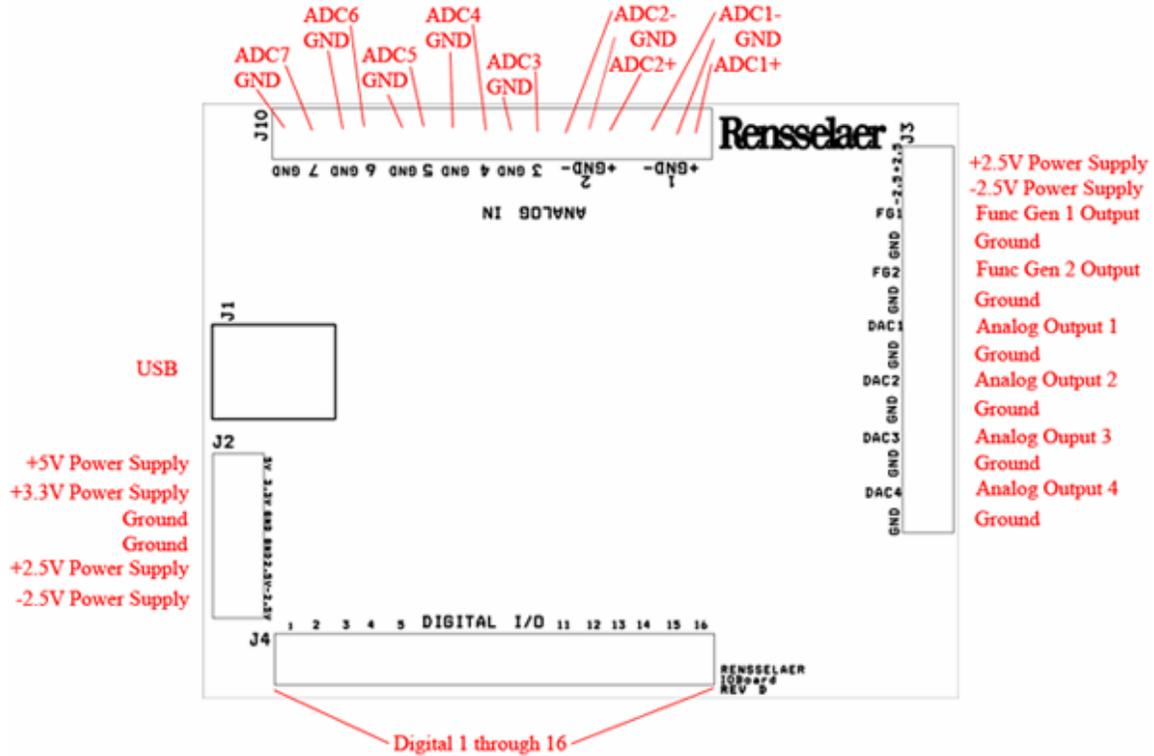

Figure A-1.
*Equipment:* What formerly would require the use of an entire workbench of equipment can now be accomplished using the Rensselaer IOBoard (see Figure A-1 below) and a laptop computer. This board, coupled with the Mobile Studio Desktop software, can simulate each of the following pieces of equipment: a two channel oscilloscope (scope), a digital voltmeter (DVM), two DC power supplies, a two channel function generator, and a 16 channel digital IO board. A full DMM is also used, as a measuring device that lets you take measurements of voltage, current, or resistance. The simulated digital voltmeter—DVM, has 2 channels (here we use the Analog IN channels 1 and 2 of the board). The scope is a measuring device that lets you view a plot of a voltage signal. The DC power supplies generate constant DC voltage signals (like a battery). The function generator creates a voltage signal that varies with time. The PC is an integral part of the equipment setup. You use it to simulate many of the circuits you will build, as well as to operate the IOBoard.
In this experiment we will use the function generator, the oscilloscope, and a speaker. The function generator is used to create electrical signals with various shapes, including sine waves. The function generator can be programmed to generate waves with specified amplitude and frequency. The function generator is connected to both the speaker and the oscilloscope. The speaker converts an electrical signal to sound that we then can hear. The oscilloscope analyzes an electrical signal and displays a picture of the signal. The combination of the oscilloscope and the speaker allows us to see with our eyes what we are hearing with our ears. We can also determine a mathematical representation of the sound that can then be used for system analysis. The function generator is located opposite the USB input. See Figure A-1.
- Connect the red lead (HI) from the DMM to one end of the speaker and the black lead (LO) to the other. In JEC 4201, just use the meter leads. In JEC 4107 there are cables available and one can use the dual banana to BNC connector. The dual banana connector has a polarity. The tab should point toward the negative connection (LO). (ALWAYS plug into the DMM using the connections furthest to the right.) Check to make sure you plug into the connectors designed to measure  $\Omega$ . Plug a BNC cable into the dual-banana connector and a mini-grabber into the BNC cable. You can then connect the leads of the mini-grabber to the speaker and record the resistance.
- Using the diagram in Figure A-1 as a guide, connect the Func Gen 1 and Ground leads to the protoboard in such a way that you can plug one side of each into the speaker. We recommend that you used a ~6" length of the twisted pair wire, but individual strands will work.